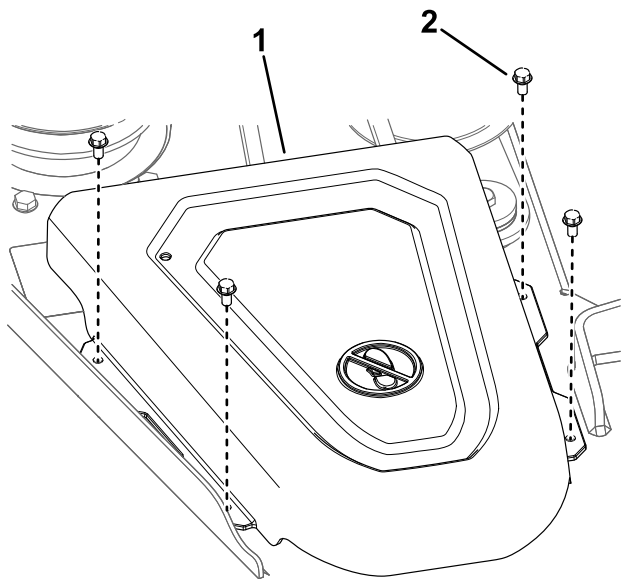

Figure 49
4. Remove the pulley covers (Figure 49).